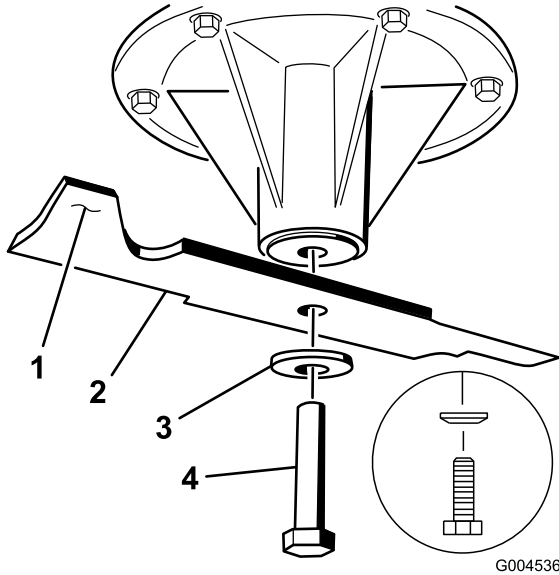

Figure 95
2. Remove the blade bolt, curved washer, and blade from the spindle shaft (Figure 95).